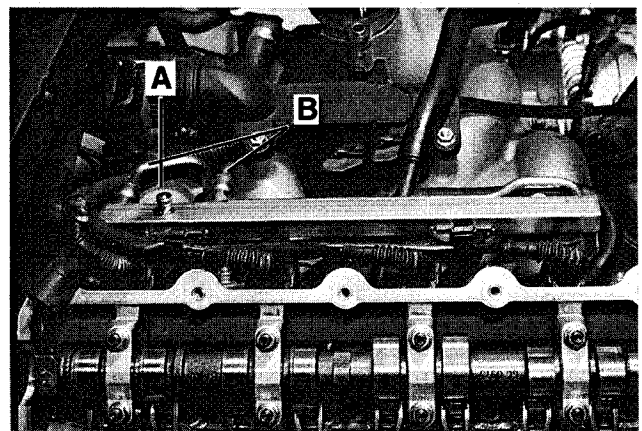

Fig. 7. M44 fuel rail air connection (A) and fuel supply and return lines (B).
17. On M44 engine, relieve fuel pressure using compressed air (maximum 3 bar pressure) at schroeder valve on fuel rail. Briefly apply air pressure to force fuel back into fuel tank. See Fig. 7.